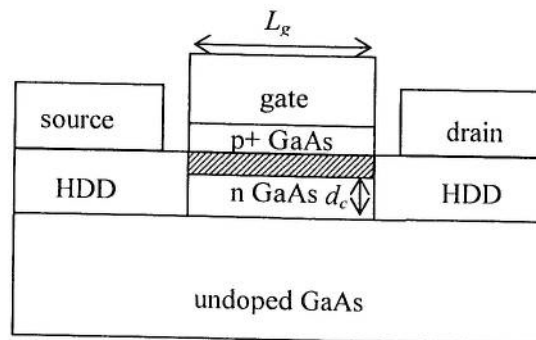

Figure 1.2: Cross section of a JFET with a gate length  $L_g$ , gate width  $W_g$  and undepleted channel depth  $d_c$ . The cross hatched area is depleted.
- c) Figure 1.2 gives a cross section of a JFET with a small negative gate voltage and small positive drain voltage (triode region) applied. Use Ohm's law to write a simple expression for the drain current  $I_{DS}$  as a function of the relevant geometrical parameters and the doping density in the channel region.